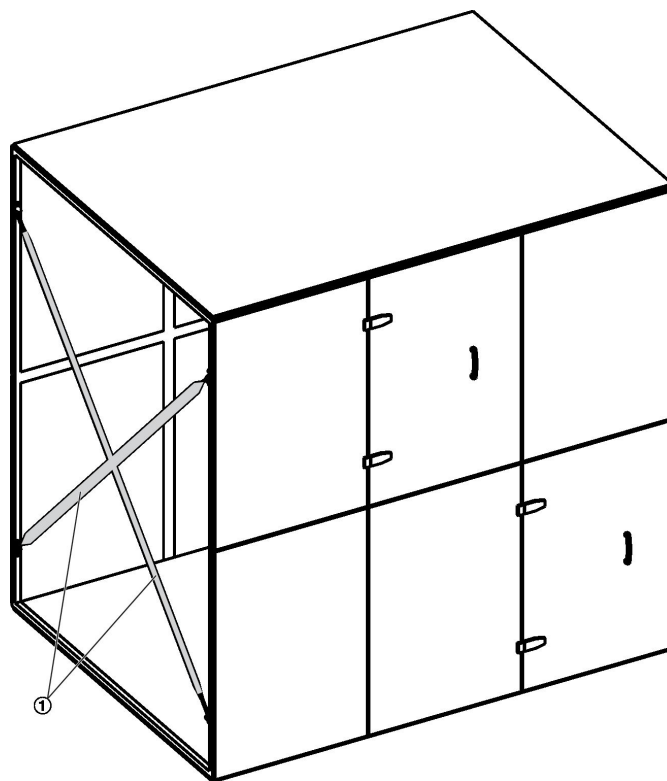

Fig. 9: Transport straps
- ▶ Cut the transport straps ( Fig. 9 /1) and remove them completely.